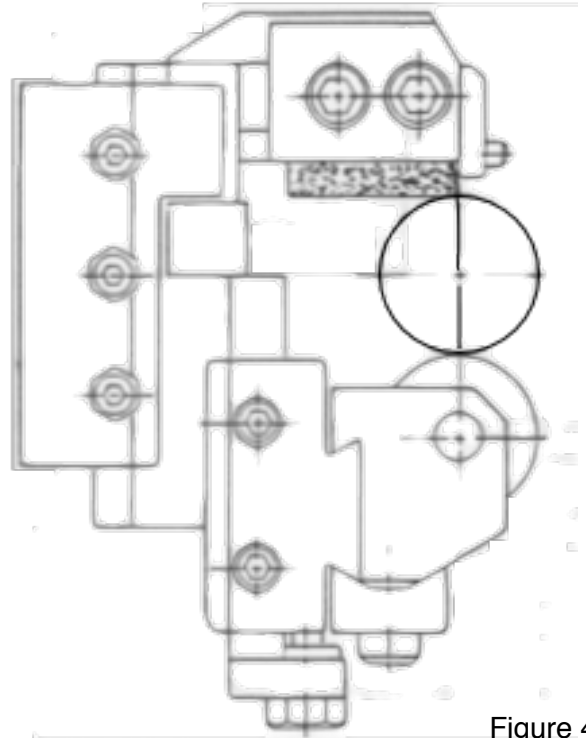

Figure 43
2. Look at the roller, tool, and part. They should all be in alignment (Figure 43)